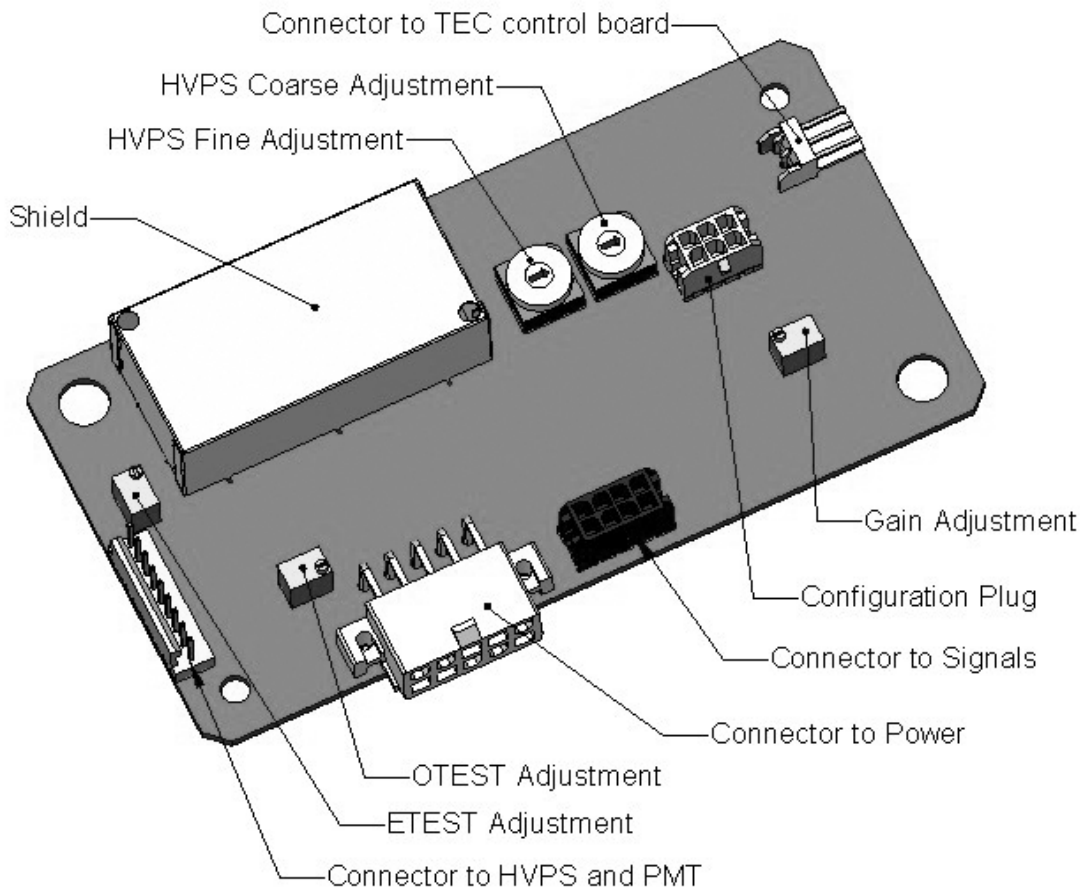

Figure 10-4: Pre-Amplifier Board Layout
7. Locate the Following Components On the Preamp board (see Figure 10-4):